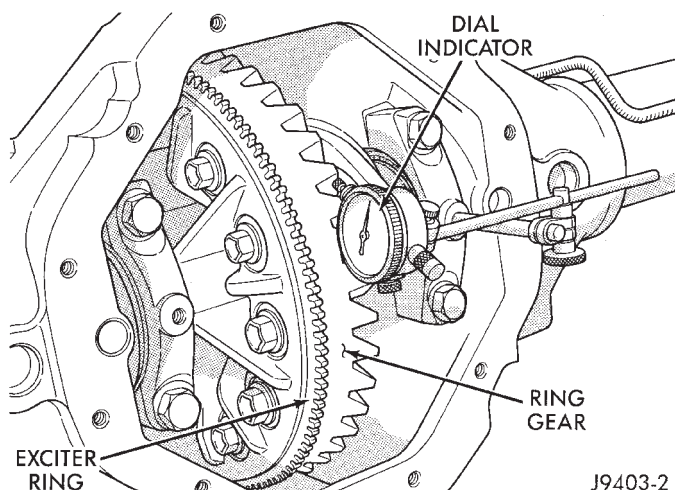

Fig. 58 Ring Gear Backlash Measurement
(2) Install dial indicator and position the plunger against the drive side of a ring gear tooth (Fig. 58). Measure the backlash at 4 positions (90 degrees apart) around the ring gear. Locate and mark the area of minimum backlash.
(3) Rotate the ring gear to the position of the least backlash. Mark the gear so that all future backlash measurements will be taken with the same gear teeth meshed.
(4) Loosen the right-side, tighten the left-side threaded adjuster. Obtain backlash of 0.003 to 0.004 inch (0.076 to 0.102 mm) with each adjuster tight-